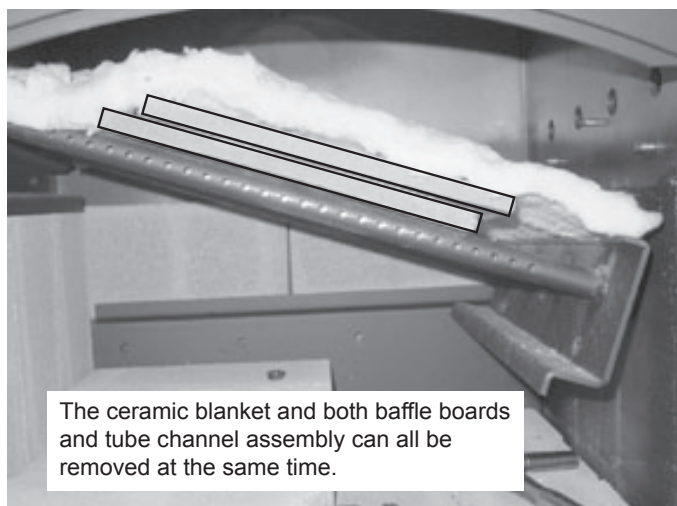

Figure 23.2
2. The baffle board has 2 pieces. With the ceramic blanket still in place, slide one baffle piece over the top of other one and pull out top piece through the door opening and then remove bottom baffle piece (**Figure 23.2**).